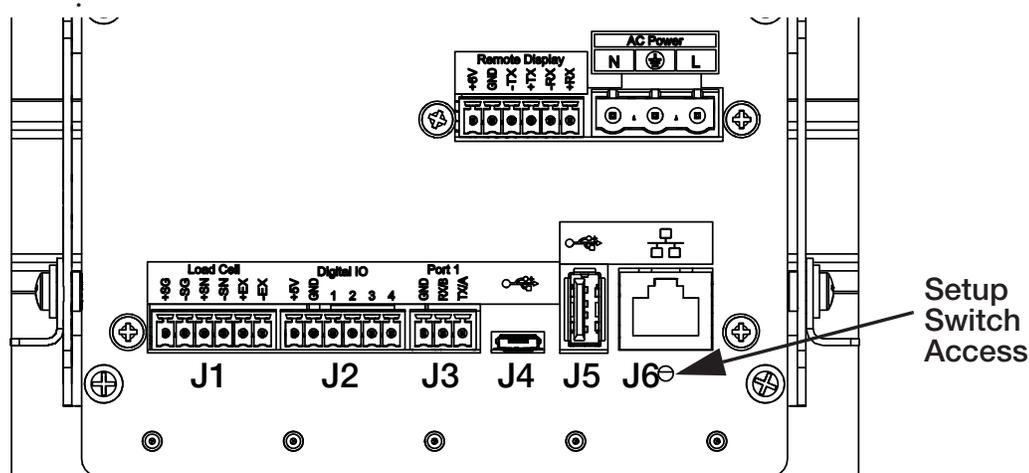

Figure 3-1. Back View – Setup Switch Access
- To prevent the use of the MENU key to enter the configuration and calibration mode, instead requiring use of the externally sealable configuration switch located inside the enclosure (see Figure 3-1), place the Jumper in the OFF position.